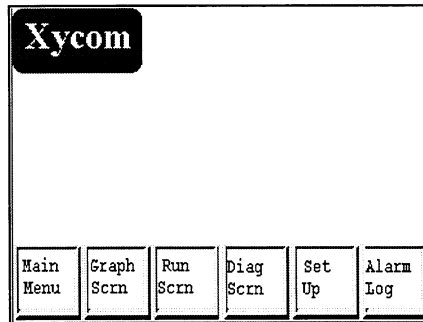

Figure 4-4. Master\_Template Screen with "Xycom Logo"
3. Double-click on Xycom.bmp in the Softwin directory. It is placed in the top left-hand corner of your screen, as shown in Figure 4-4. If you have a small bitmap (approximately 100 x 50) of your company logo, select it now.